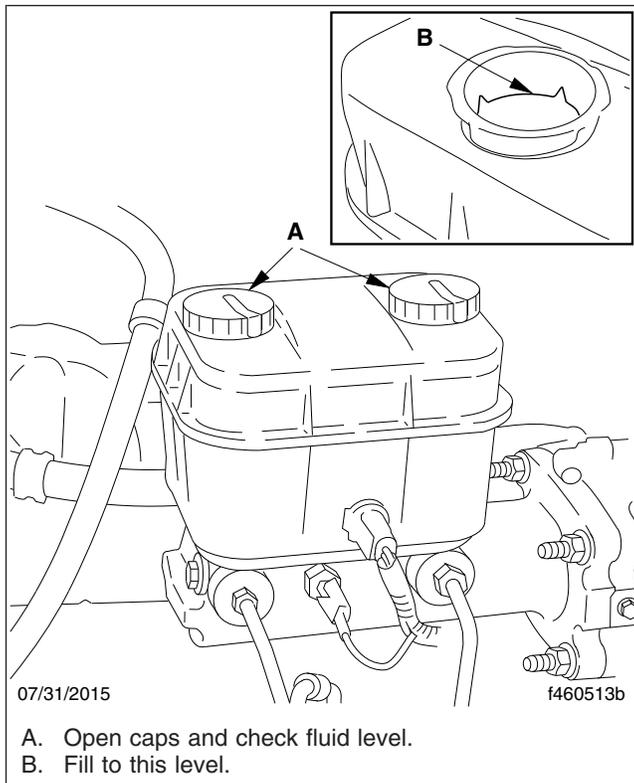

Fig. 7, Hydraulic Brake Fluid Reservoir
1. Check the fluid level in the hydraulic brake fluid reservoir. If needed, fill the reservoir up to the bottom of the fill-neck. See Fig. 7. Use only heavy-duty brake fluid, DOT 3.